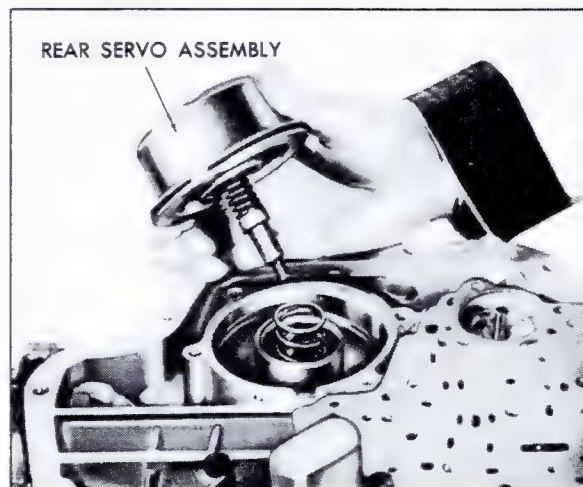

Fig. 7-47 Removing Rear Servo Assembly
2. Remove rear servo assembly from transmission case, Fig. 7-47.